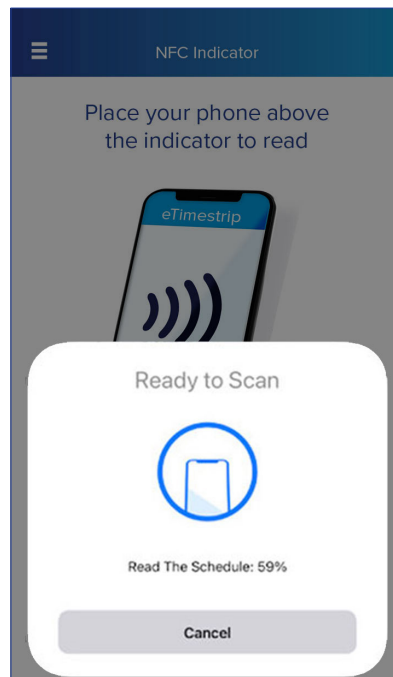
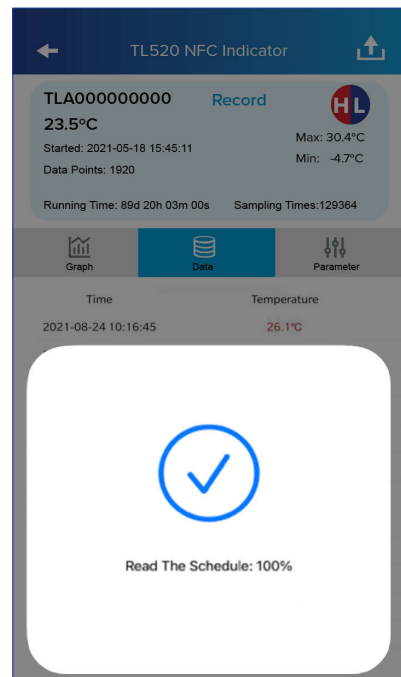

fig. 2
fig. 3
4. Synchronize time: When the mobile phone is actively reading the device, it will automatically synchronize the time. Alternatively, press the Sync Time button; the "Synchronization time succeeded, please rescan the device" message appears. Allow time for the App to sync before generating a report. (fig 2) (fig. 3)